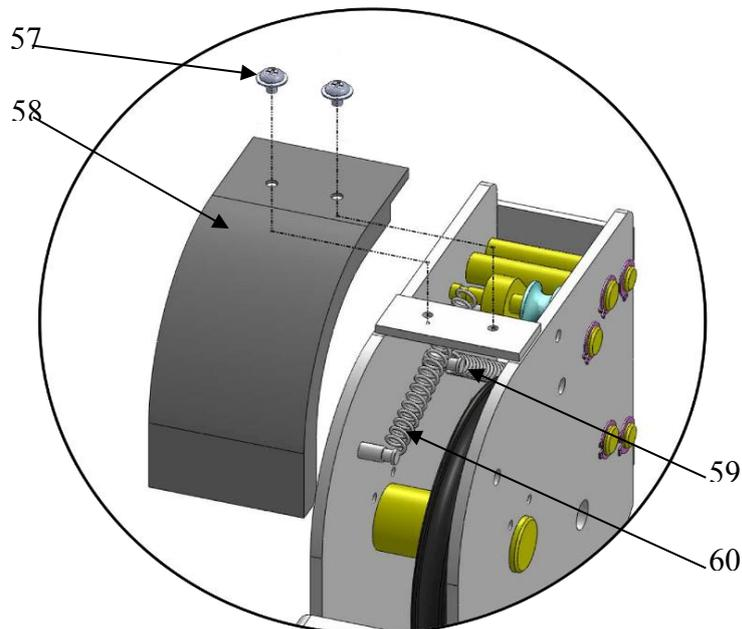

Fig. 27
M. Install spring and safety cover of cross beam (See Fig. 27).